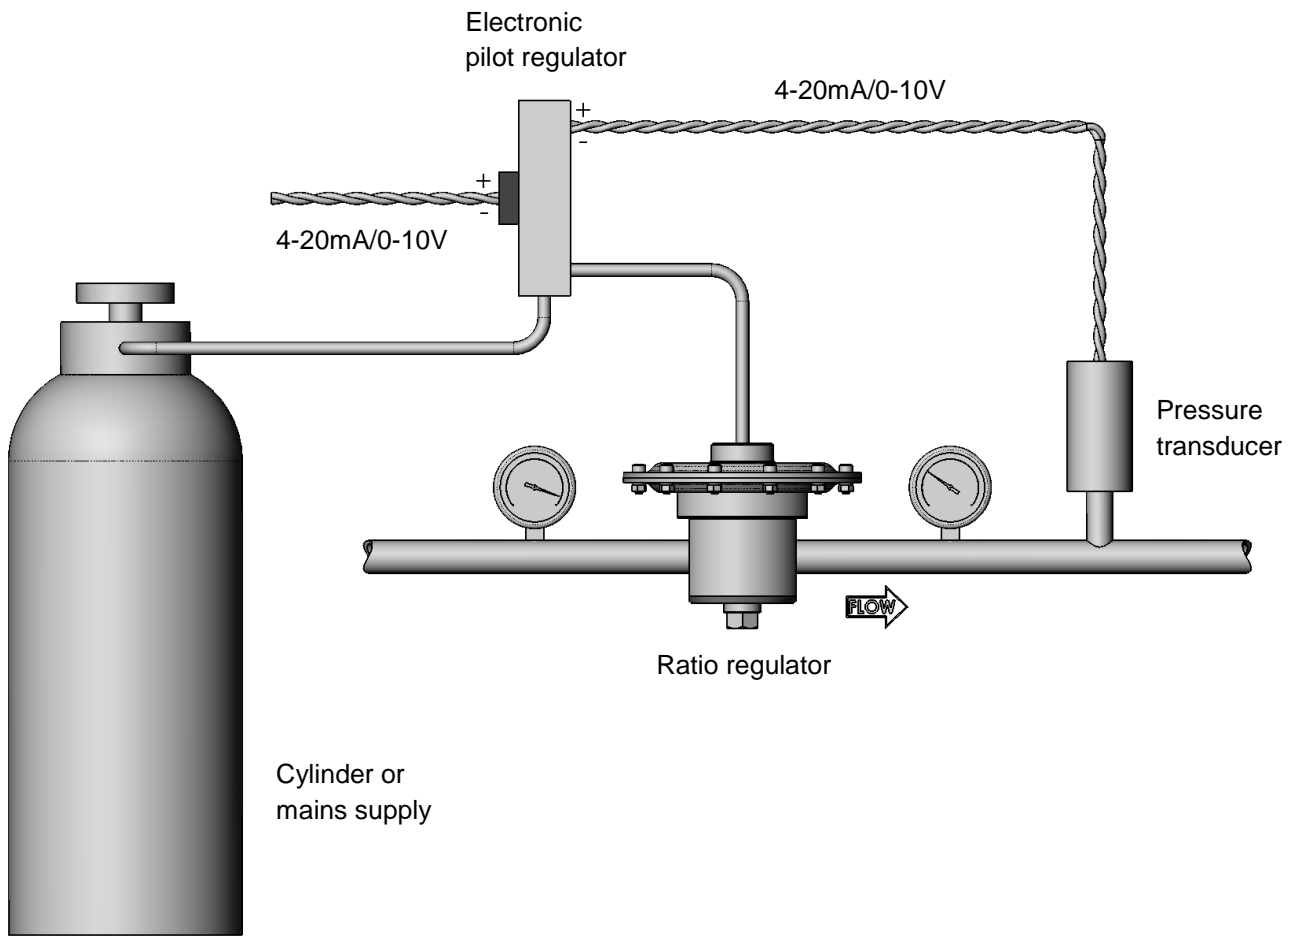

Fig 2
- **Electronic control.** In this setup an electronic pilot regulator, fed from an independent source, is used in conjunction with a pressure transducer to directly control the dome pressure (Fig 2).